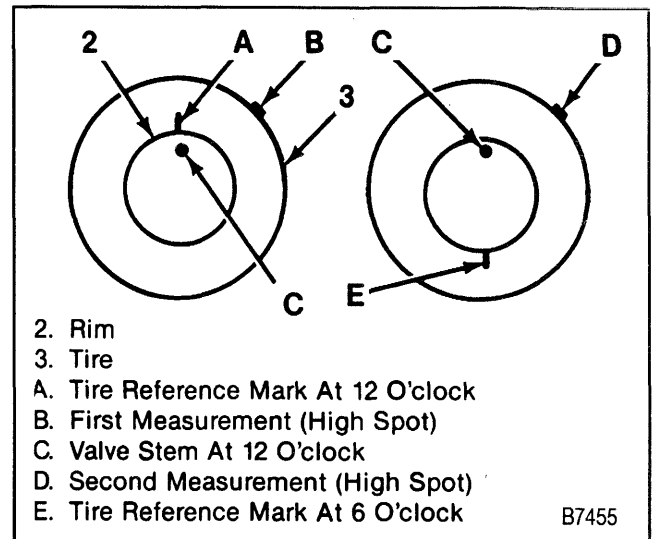

Figure 11—Checking Tire to Wheel Vectoring
- If the trend is uneven, wrap tape tightly around the tire, record the runout magnitude, and mark the high spot location (figure 11).